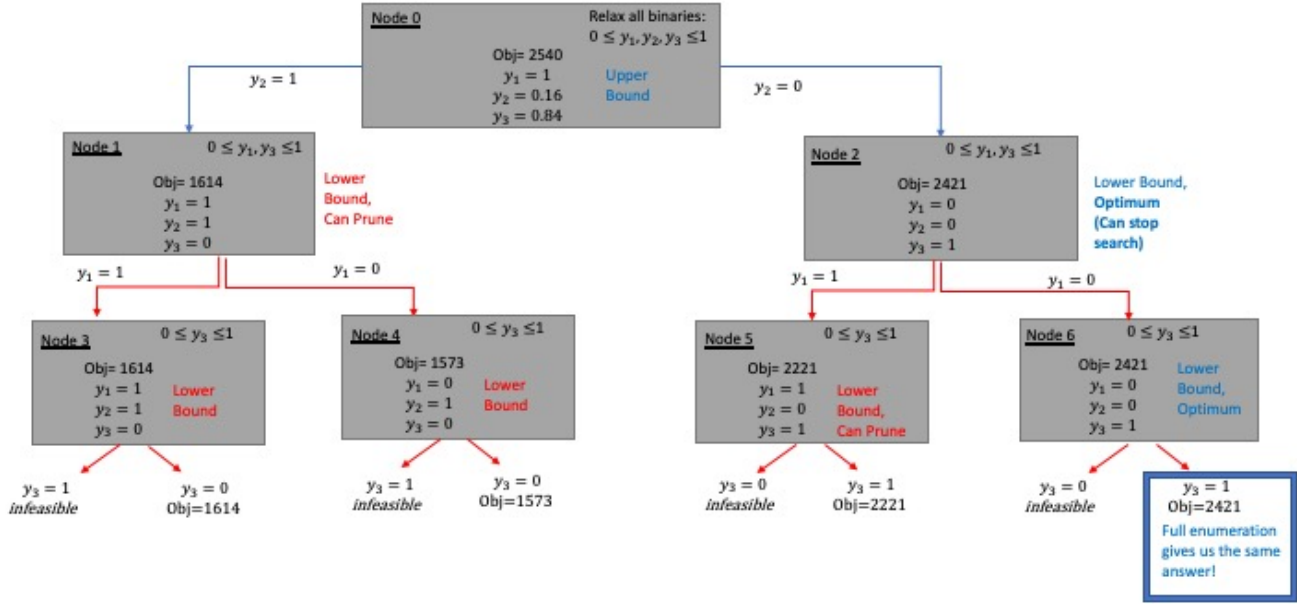

Figure 2: Branch and bound tree for Problem 2
- (b) The branch and bound tree is shown in Figure 2. Here we show full enumeration just for completeness. The actual tree only contains Node 0, 1, and 2 as we explained in part (a). Both nodes 1 and 2 are pruned because they provide lower bounds. Tighter activation constraints (con11-con14) allow for the same solution to be found at the root node.